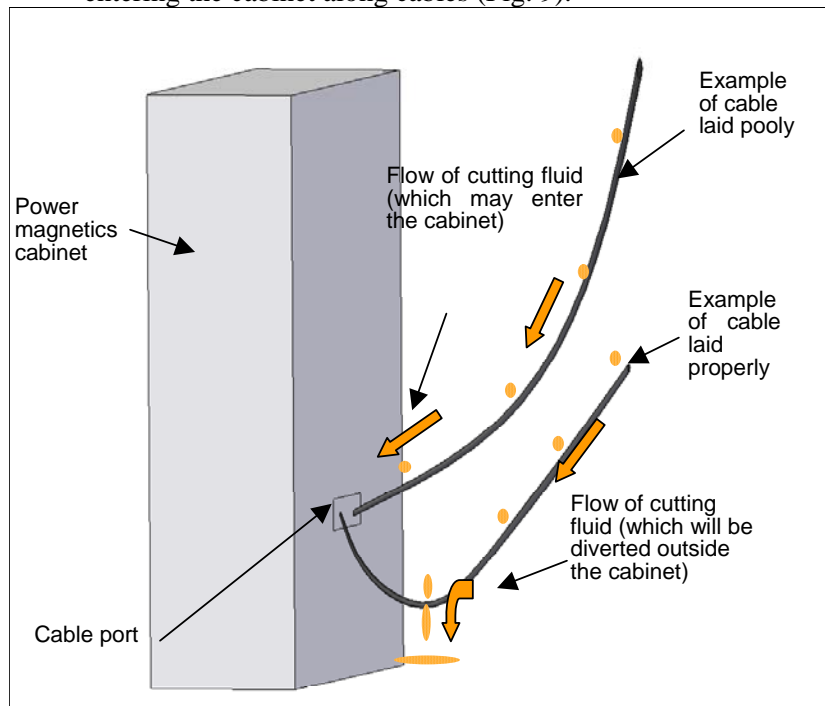

Fig. 9 How to lead in cables
- <8> Lead cables into the power magnetics cabinet from below the cable port. This is intended to try to prevent cutting fluid entering the cabinet along cables (Fig. 9).